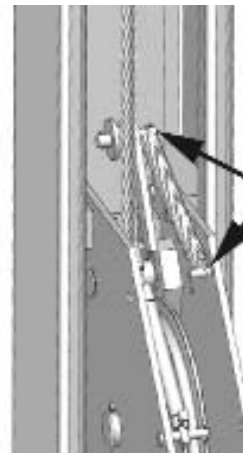

Fig. 13.1
1. Inspect the ends of the SLACK SAFETY LOCK SPRINGS as shown. Make sure the spring ends are secure at both ends. **DO NOT ATTEMPT TO RAISE THE LIFT UNTIL THE SLACK SAFETY SPRINGS ARE ATTACHED AND THE ROLLERS ARE PULLED CLEAR FROM THE LADDER.** (See Fig. 13.1)